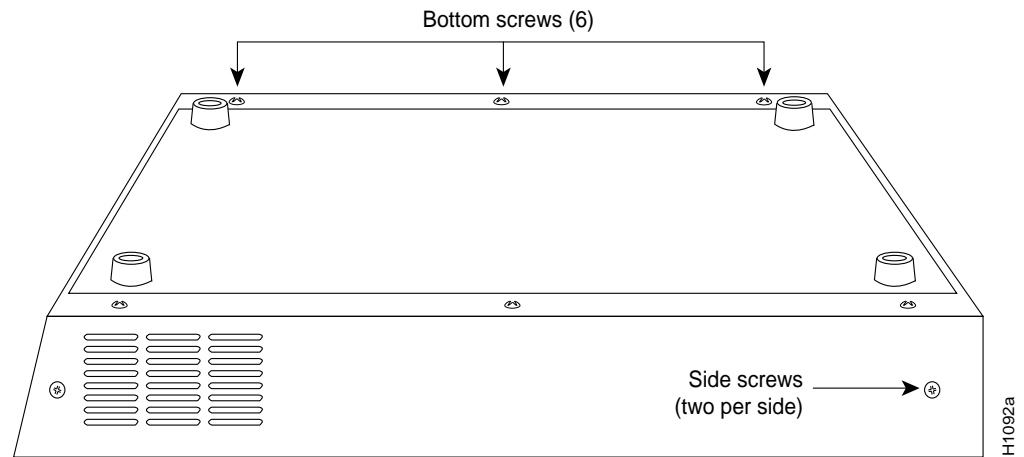

Figure 8 C Chassis Cover—Bottom View
To gain access to the system card cage, you must remove the chassis cover. The cover on a C chassis system envelopes the chassis and is secured by ten screws: six on the bottom and two on each side. Refer to Figure 8 when removing the chassis cover.
- Step 2:** Remove the two screws on each side of the cover (see Figure 8)